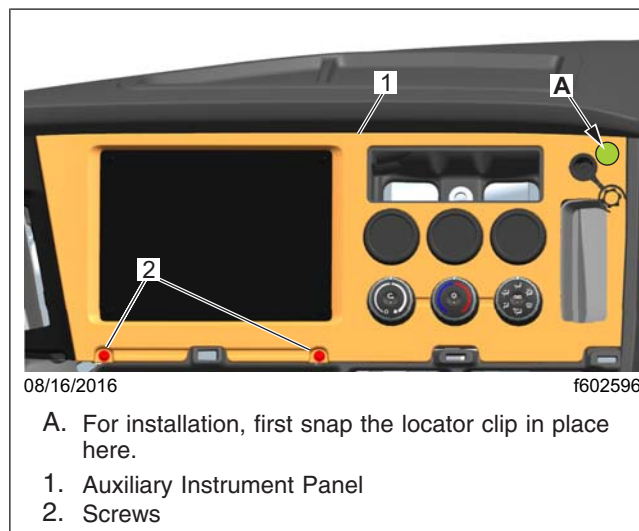

Fig. 3, Auxiliary Instrument Panel (B-Panel Upper Fascia) Removal and Installation
5. Remove the auxiliary instrument panel (B-panel upper fascia) as shown in **Fig. 3**.
13. Install the two screws on the bottom edge of the auxiliary instrument panel as shown in Fig. 3. Tighten the screws 26 to 34 lbf-in (295 to 385 N·m).